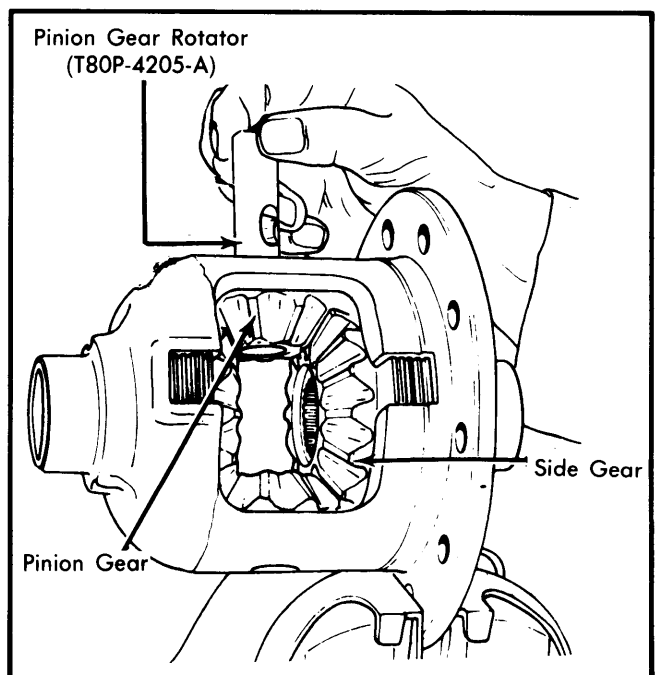

Fig. 5 Pinion and Side Gear Installation
3) Mount differential case in a soft-jaw vise and place clutch packs and side gears into original cavities in case. Place pinion gears and thrust washers onto side gears. Install pinion gear rotator (T80P-4205-A) into differential case and rotate pinion gears until pinion gear bores are aligned with pinion shaft holes. See Fig. 5.